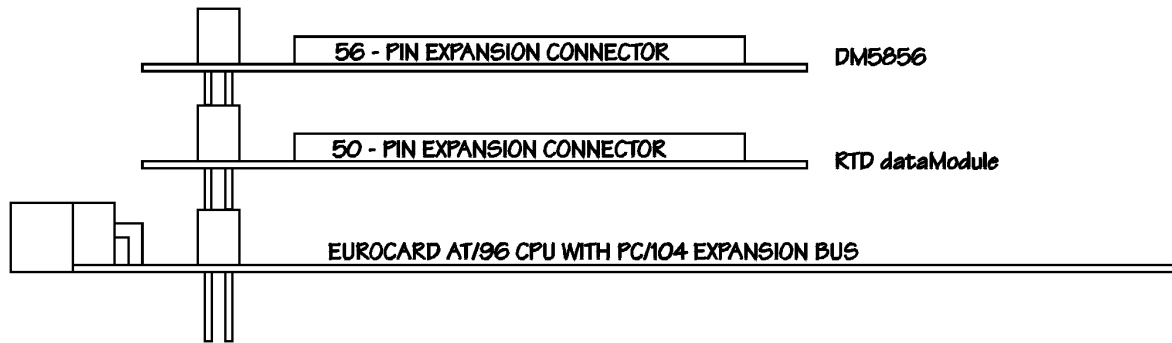

Fig 3-2: 19" Eurocard rack installation with an integrated PC/104 dataModule and EUROCARD cpuModule computer system
- Fig. 3-2 : 19" Eurocard rack installation with an integrated PC/104 dataModule and EUROCARD cpuModule computer system
The PC/104 system can easily be inserted into a 19" rack installation using the CPU as a "form factor adapter". Assemble your PC/104 data modules on a RTD single board EUROCARD computer and install the system in a 19" enclosure. Multiple DM5856 boards can be easily connected to this system. See figure 3-2 below.